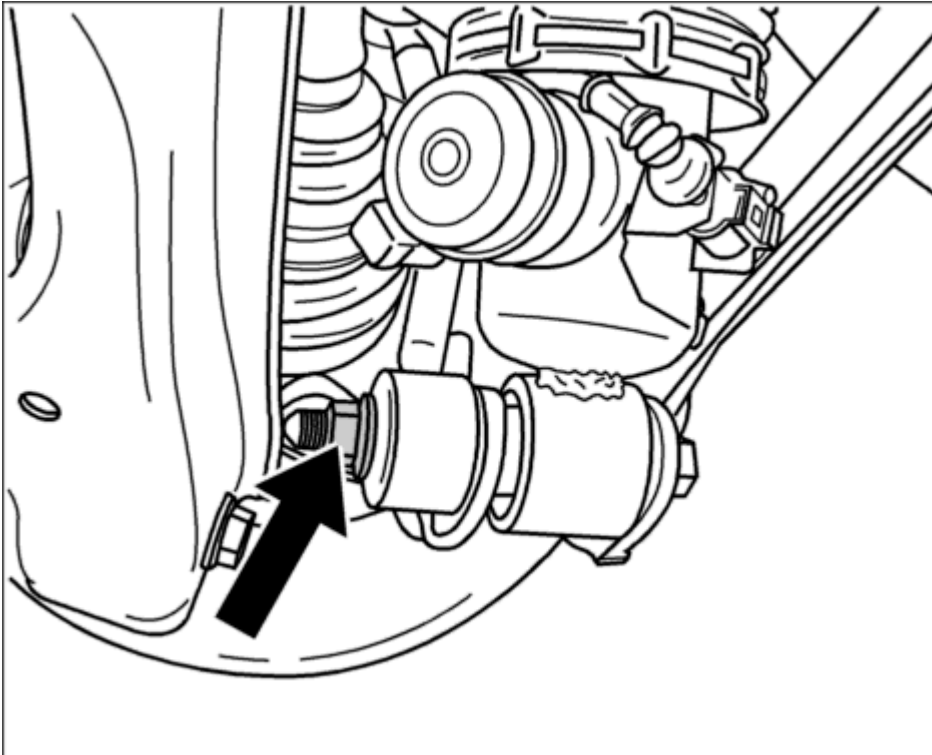

Fig. 75: Lower connecting link/spring strut fastener
4. Attach the fastening screw for the connecting link/spring strut -**arrow**- to the wheel carrier. See **Fig. 75**.